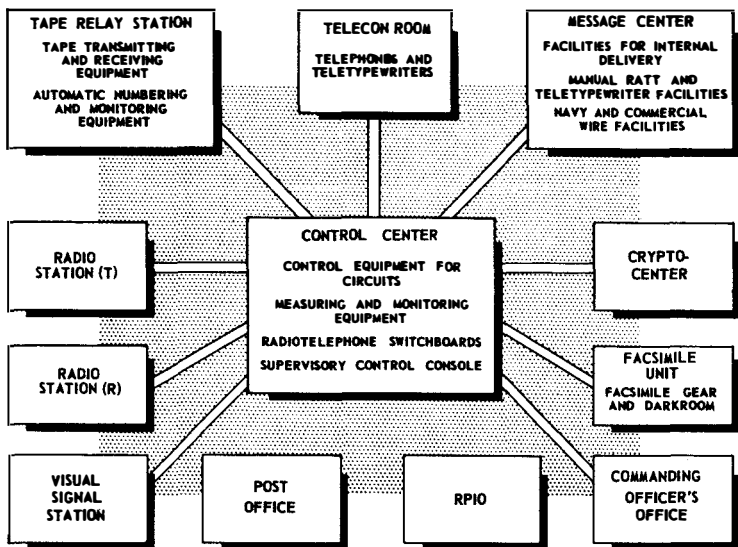

Figure 2-6.—Physical arrangement of a NAVCOMMSTA.
Figure 2-6 shows the physical layout of a NAVCOMMSTA. The diagram is schematic, for in practice buildings and spaces vary so widely in arrangement that generalization is difficult. The elements shown will usually be present, but at some stations are scattered over many acres. Transmitting and receiving stations (stations (T) and (R), respectively) are often miles away from the rest of the activity.